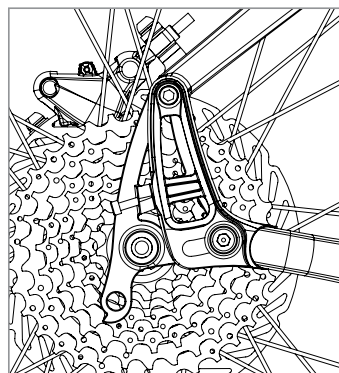

Figure 5
2. Install and secure the rear wheel properly into the dropouts (fig 5).
- Push the swing plates all the way forward (fig 5)